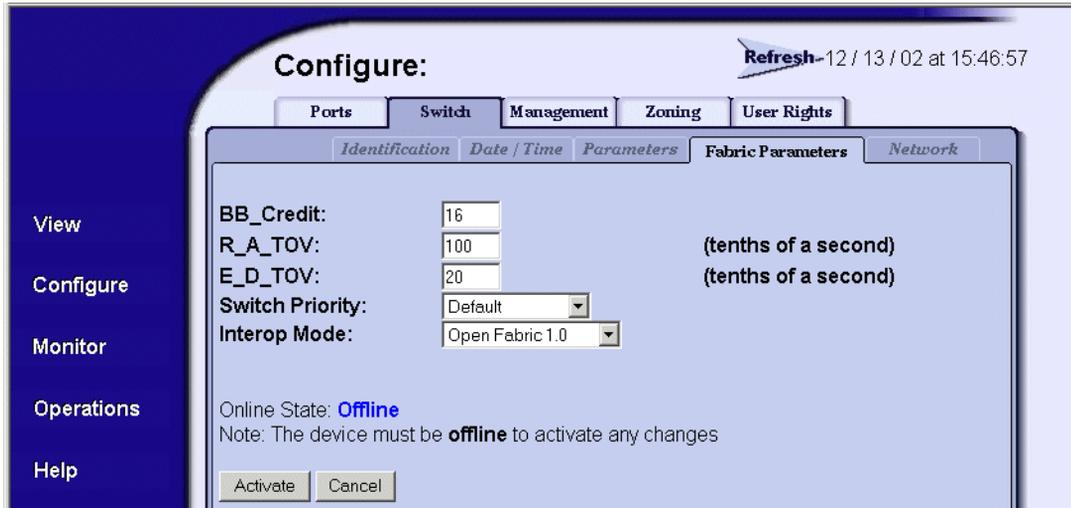

Figure 2–5: Fabric parameters tab view
3. Click the **Switch** or **Director** tab (as appropriate), then click the **Fabric Parameters** tab. The **Fabric Parameters** tab view displays (Figure 2–5).